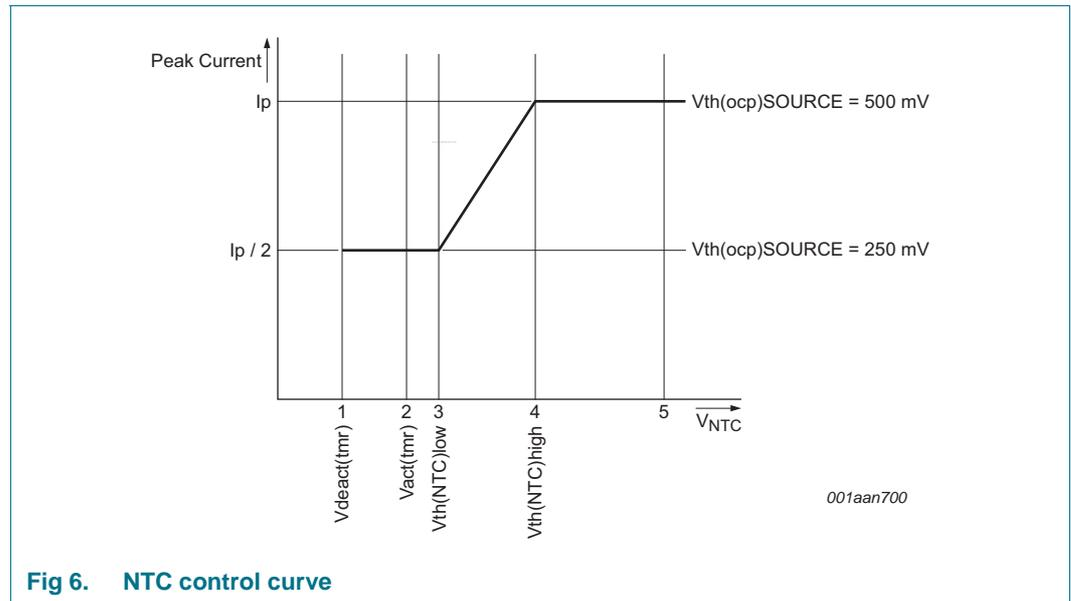

Fig 6. NTC control curve
The NTC pin can be used as a control method for LED thermal protection. Alternatively, the pin can be used as an input to disable/enable light output using a digital signal (PWM dimming). The pin has an internal current source that generates the current of $I_{offset(NTC)}$. An NTC resistor to monitor the LED temperature can be directly connected to the NTC pin. Depending on the resistance value and the corresponding voltage on the NTC pin, the converter reacts as shown in Figure 6.
When the voltage on the NTC pin is higher than $V_{th(high)NTC}$ see Figure 6 (4), the converter delivers nominal output current. When the voltage is lower than this level, the peak current is gradually reduced until $V_{th(low)NTC}$ is reached, see Figure 6 (3). The peak current is now half the peak current of nominal operation. When $V_{act(tmr)NTC}$ is passed, see Figure 6 (2) a timer starts to run to distinguish between the following situations:
- If the low-level $V_{deact(tmr)NTC}$ is not reached within time $t_{to(deact)NTC}$, Figure 6 (1) LED overtemperature is detected. The IC stops switching and attempts to restart from the HV pin voltage. Restart takes place when the voltage on NTC pin is higher than $V_{th(high)NTC}$, see Figure 6 (4). It is assumed that the reduction in peak current did not result in a lower NTC temperature and LED OTP is activated.
- If the low-level $V_{\text{deact(tmr)NTC}}$ is reached within the time $t_{\text{to(deact)NTC}}$, Figure 6 \(1\) it is assumed that the pin is pulled down externally. The restart function is not triggered. Instead, the output current is reduced to zero. PWM dimming can be implemented this way. The output current rises again when the voltage is higher than $V_{\text{deact(tmr)NTC}}$.
The NTC pin can be used to make a soft start function. During switch-on, the level on the NTC pin is low. By connecting a capacitor (in parallel with the NTC resistor), a time constant can be defined. The time constant causes the level on the NTC pin to increase slowly. When passing level $V_{\text{th(low)NTC}}$ Figure 6 \(3\), the convertor starts with half of the maximum current. The output current slowly increases to maximum when $V_{\text{th(high)NTC}}$ Figure 6 \(4\) is reached.